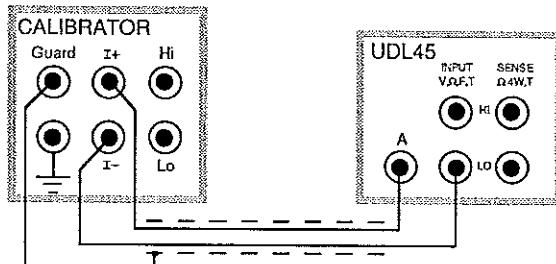
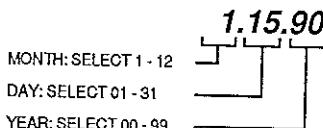

Figure 6-10. Calibrator-to-UDL45 Connections for AC/DC Current
Figure 6-11. Calibration Date Format
- (6) Calibrate 200-mA dc current range.
- c. Connect the calibrator to the UDL45 using a shielded cable as shown in Figure 6-10.
- g. To continue the calibration procedure, go to step (7)d. To conclude the calibration at this point, press FUNCTION ▼ repeatedly until the CAL date is displayed (Table 6-4, step 23) and go to step (10)c.
- (7) Calibrate 200-mA ac current range.
- h. To continue the calibration procedure, go to step (8)d. To conclude the calibration procedure at this point, press FUNCTION ▼ repeatedly until the CAL date is displayed (Table 6-4, step 23) and go to step (10)c.
- g. To continue the calibration procedure, go to step (9)d. To conclude the calibration at this point, press FUNCTION ▼ repeatedly until the CAL date is displayed (Table 6-4, step 23) and go to step (10)c.
- (9) Calibrate 2-A ac current range.
- g. To continue the calibration procedure, go to step (10)c.
- (10) Entering a CAL Date.
- b. Press FUNCTION ▼ repeatedly until the CAL date is displayed (Table 6-4, step 23). See Figure 6-11.